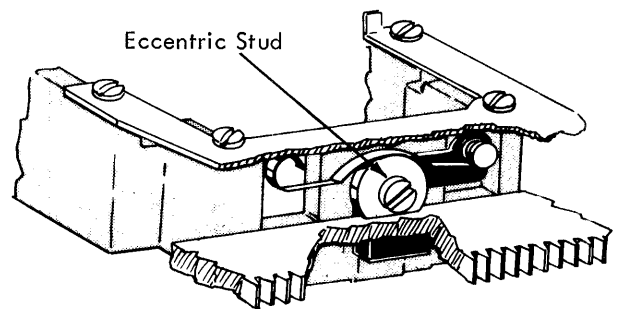

FIGURE 137. Carrier Shoe - Late
- b. Carrier Shoe (Late) - Adjust the upper carrier shoe eccentric mounting stud to provide .002" to .006" vertical motion of the carrier at the rear (Fig. 137) when the spring load on the upper shoe is suppressed.